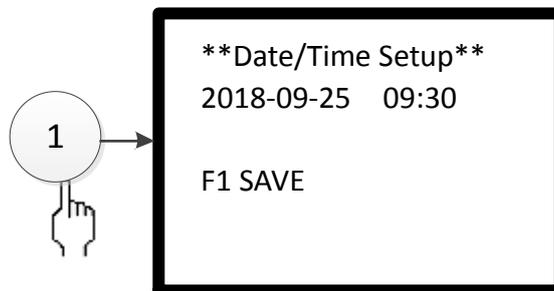

Fig. 3-19
① Time Setup
Enter the screen as shown in Fig. 3-19 by pressing number 1 or moving cursor to select ①. The clock has year, month, date, hour, minute. Move the cursor to modify them by pressing numbers. After modification, press “F1” to save and press “ESC” to exit.